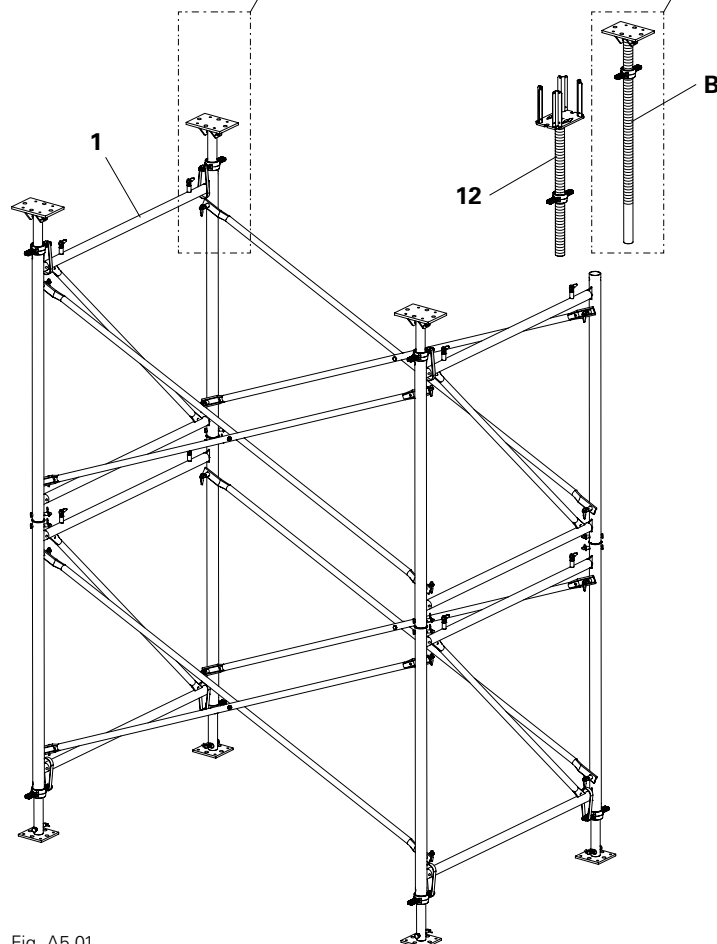

Fig. A5.01
3. Secure the Cross Head Spindles TR 48-75/42 **(12)** on the Frame PD 8 **(1)** with Safety Strap for PD 8 Table **(13)**. (Fig. A5.01)